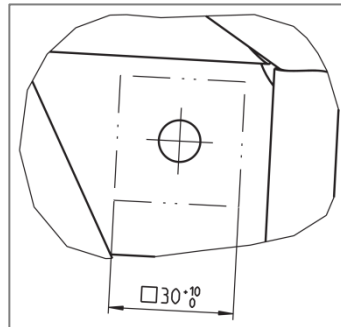

Figure 4: Bonding point preparation
- Remove the paint at the bonding point from the bottom side of the plate as shown in figure 4.